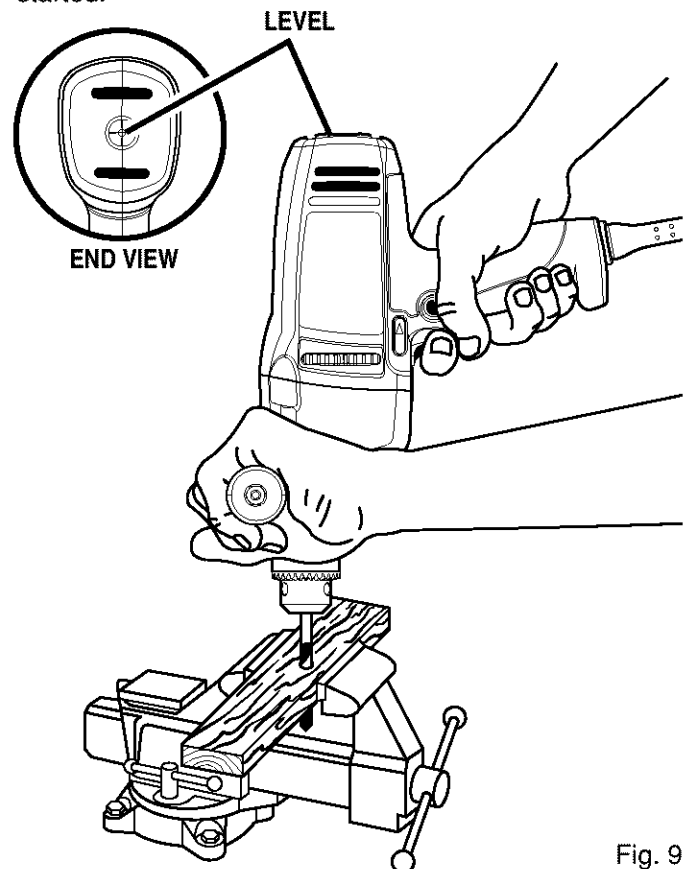

Fig. 9
See Figures 9 and 10.
- Move the drill bit into the workpiece applying only enough pressure to keep the bit cutting. Do not force your drill or apply side pressure to elongate a hole. Let your drill and bit do the work. See Figures 9 and 10.